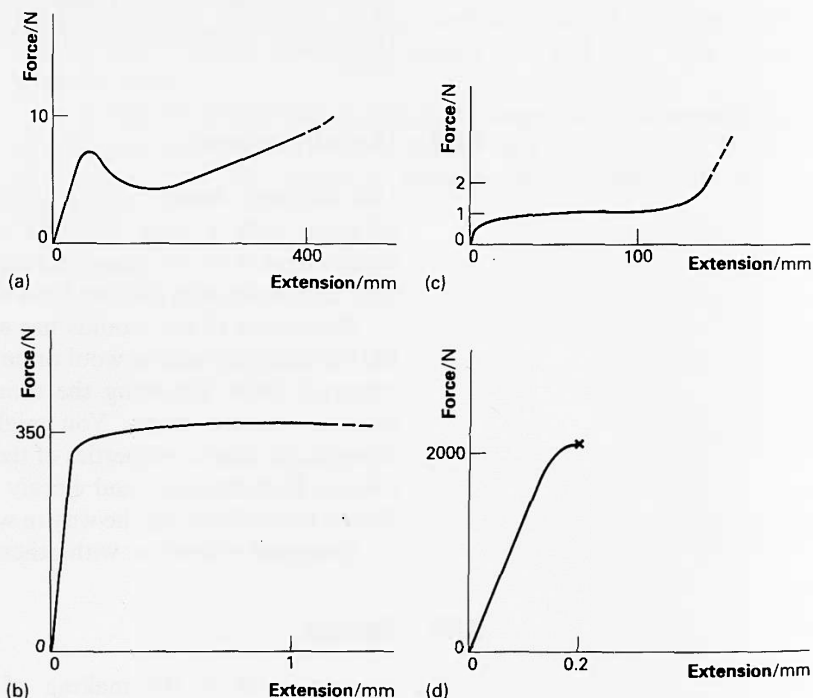

Figure A88
- 2(E) The graphs in figure A88 show how the lengths of various materials vary as the force extending them is increased. For each graph, describe the behaviour of the substance. Hazard a guess as to what each might be. Each specimen was originally 100 mm long and the area of cross-section was  $1 \text{ mm}^2$ .